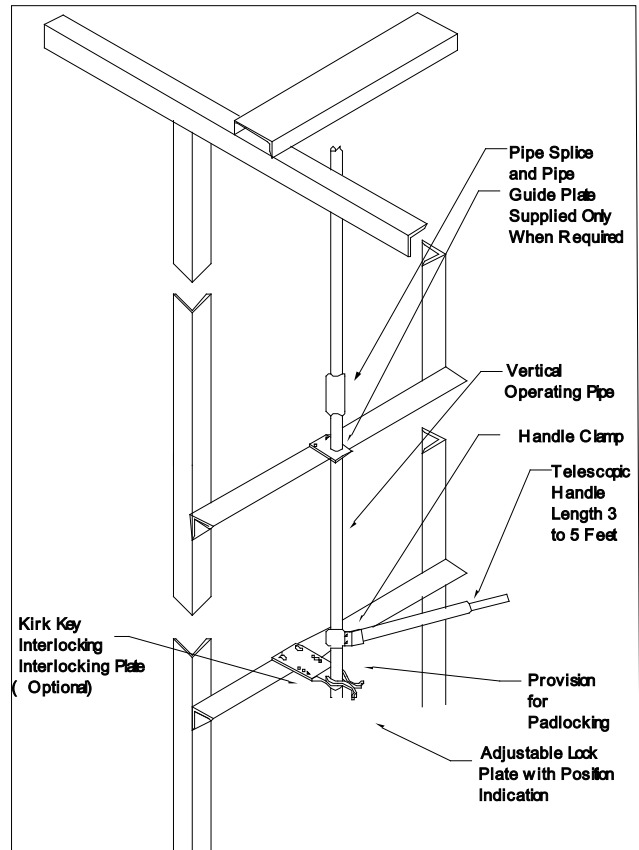

Fig. 8 Standard Offset-Torsional Mechanism on Standard Support Structure
When the length of the vertical operating pipe exceeds 23 feet, a pipe splice and a guide plate are furnished and should be installed as shown in Fig. 8. The pipe splice and both pieces of pipe are pre-drilled to receive the 5/8" diameter pins. The guide plate should not be solidly mounted until after the vertical pipe has been completely installed; then bolts holding the guide plate on the structure should be tightened in order that the holes in the guide plate line up with the normal position of pipe. This assures that there is no binding.
4. With the switch in the fully closed position, set the handle clamp so its set screws are 4 inches above the lock plate and its vertical centerline is at or near as possible to the closed position, see Fig. 8.